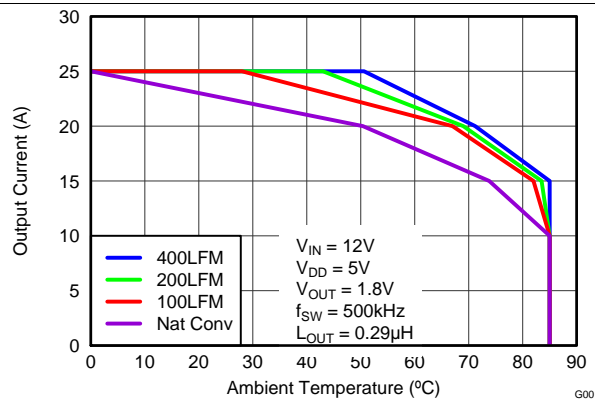
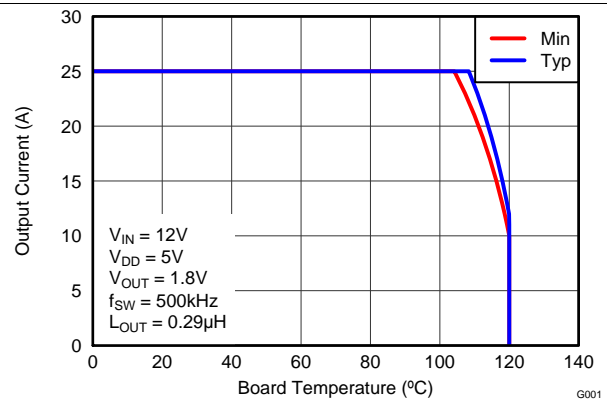

Figure 4. Safe Operating Area (SOA) – PCB Horizontal Mount ⁽¹⁾
Figure 5. Typical Safe Operating Area (SOA) ⁽¹⁾
The SOA curves in the CSD95375Q4M datasheet give engineers guidance on the temperature boundaries within an operating system by incorporating the thermal resistance and system power loss. Figure 4 and Figure 5 outline the temperature and airflow conditions required for a given load current. The area under the curve dictates the safe operating area. All the curves are based on measurements made on a PCB design with dimensions of 4" (W) x 3.5" (L) x 0.062" (T) and 6 copper layers of 1 oz. copper thickness.